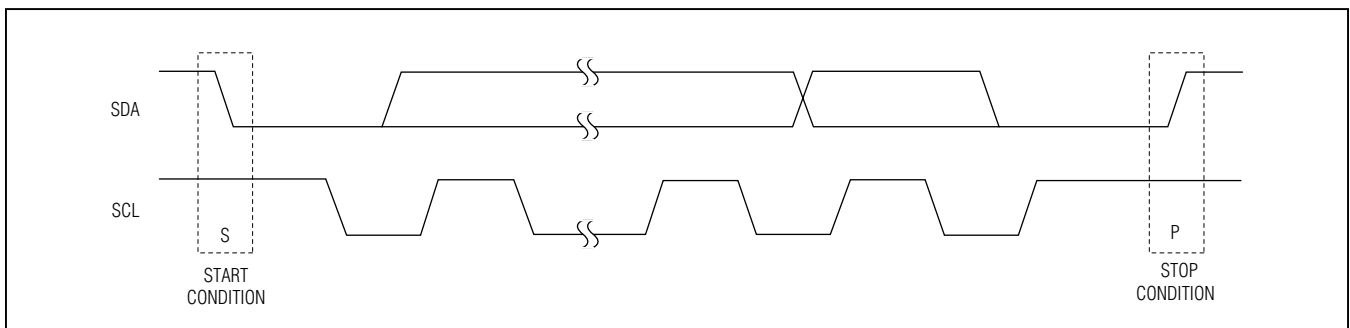

Figure 2. START and STOP Conditions
Each transmission consists of a START (S) condition (Figure 2) sent by a master, followed by the device's 7-bit slave address plus R/W bit, a register address byte, one or more data bytes, and finally, a STOP (P) condition.